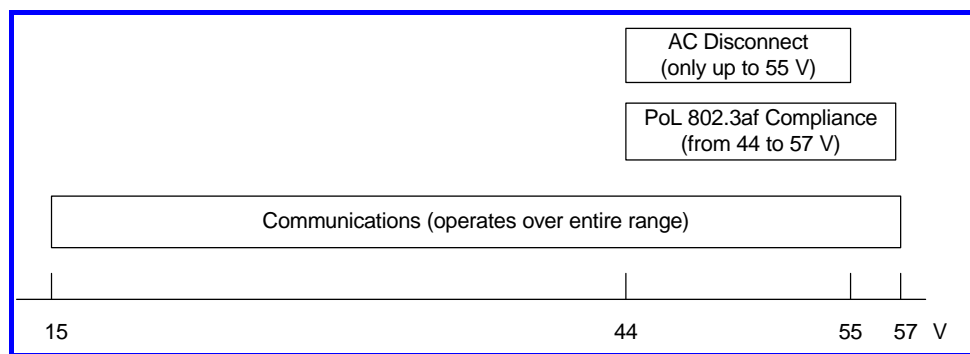

Figure 1 - Operational Ranges
(1) Operating functions depend on the input voltage, as shown in the distribution of Figure 1.